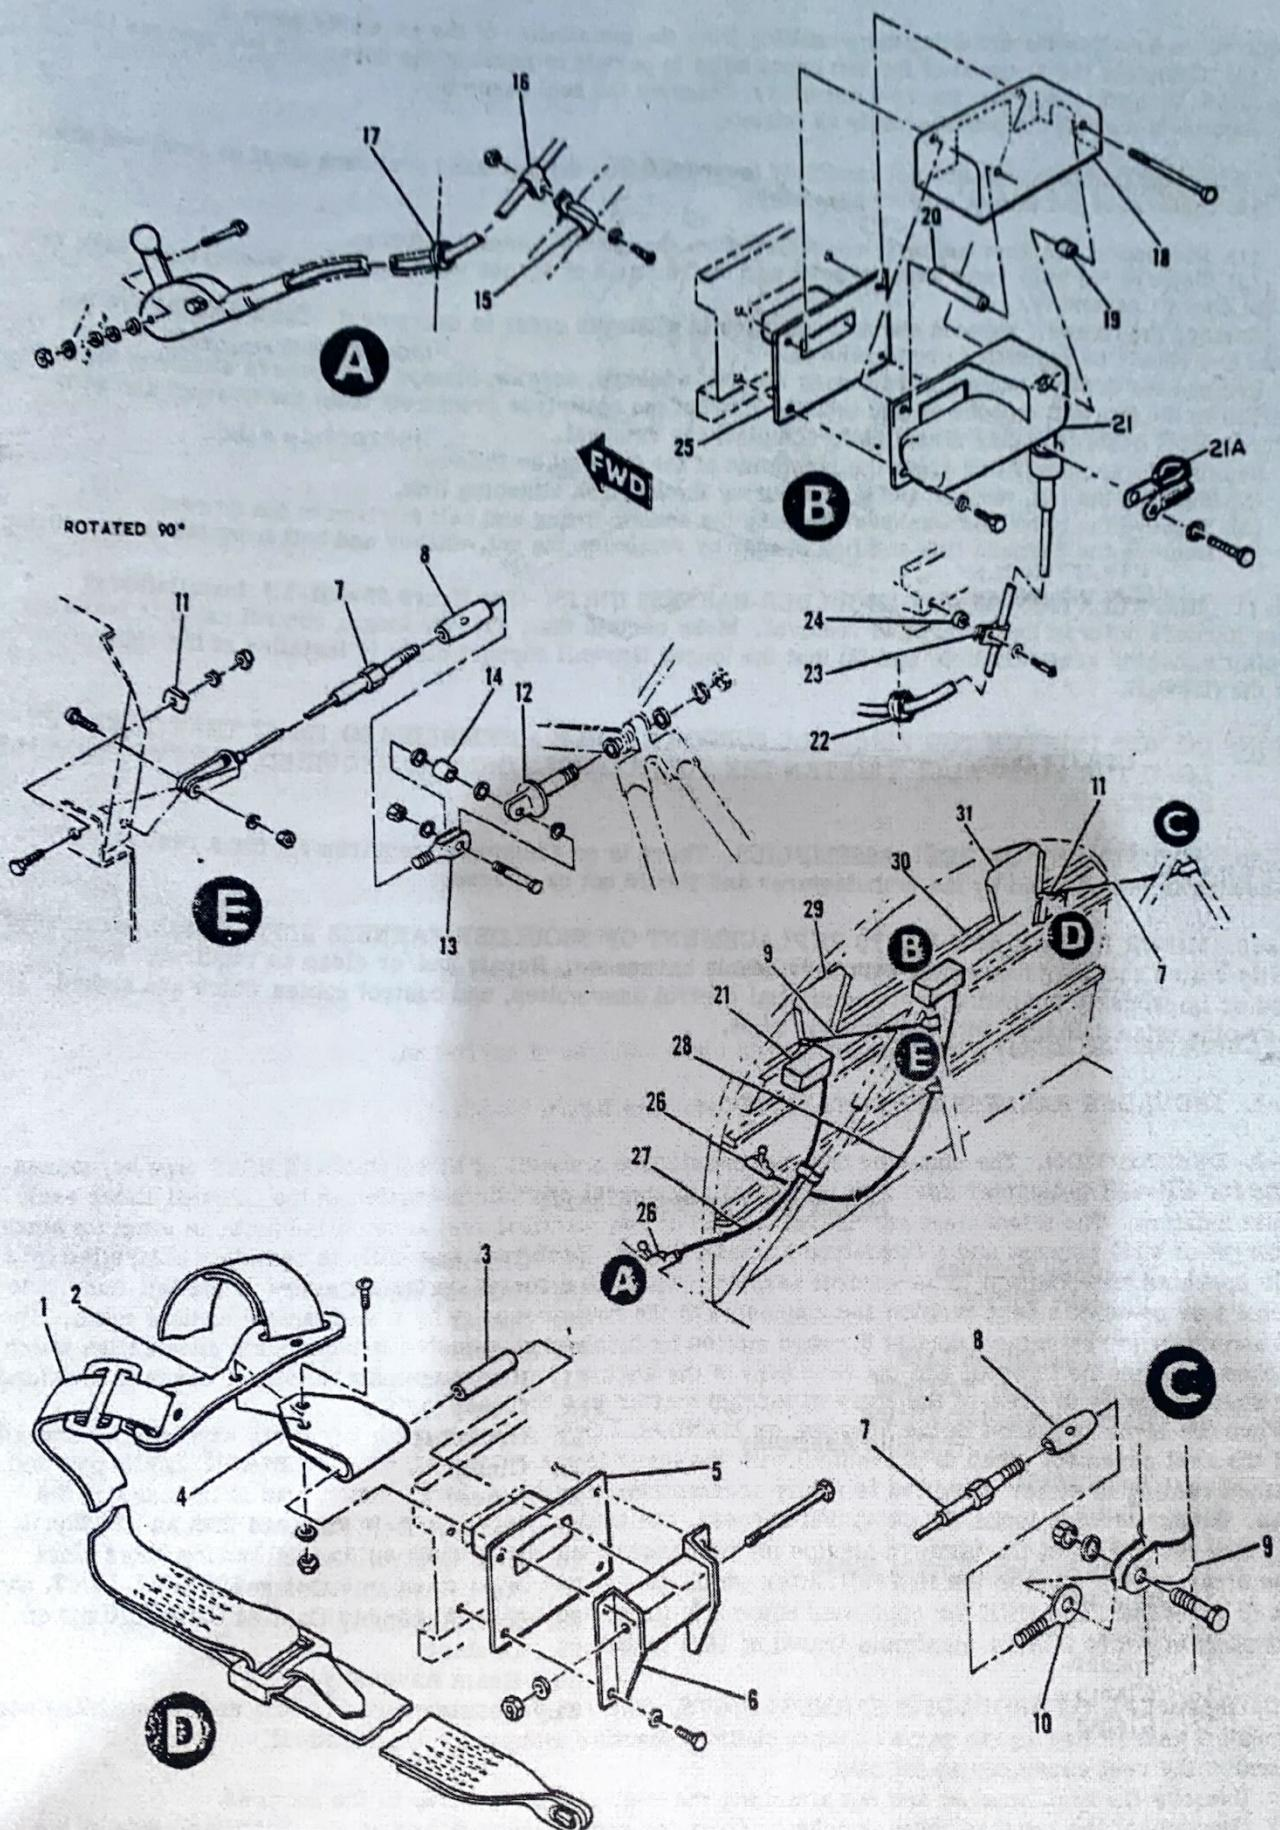

Figure 85-301-1. Shoulder Harness Installation
85-301-1. SHOULDER HARNESS KIT INSTALLATION. (See figure 85-301-1.)
- (1) Remove the nut, washer and bolt securing the harness attaching link.
- (2) Remove the bolts and washers securing the anchor fitting and belt fairlead to the firewall.
- (3) Remove the harness link and link spacer by removing the nut, washer and bolt from the anchor fitting.
85-301-11. INSTALLATION OF THE SHOULDER HARNESS UNITS. (See figure 85-301-1.) Installation of shoulder harness units is the reverse of removal. Make certain that: (1) the longer control cable is installed in the pilot's (center seat) location, and (2) that the longer firewall support cable is installed at the right-hand side of the firewall.
INDEX TO FIGURE 85-301-1